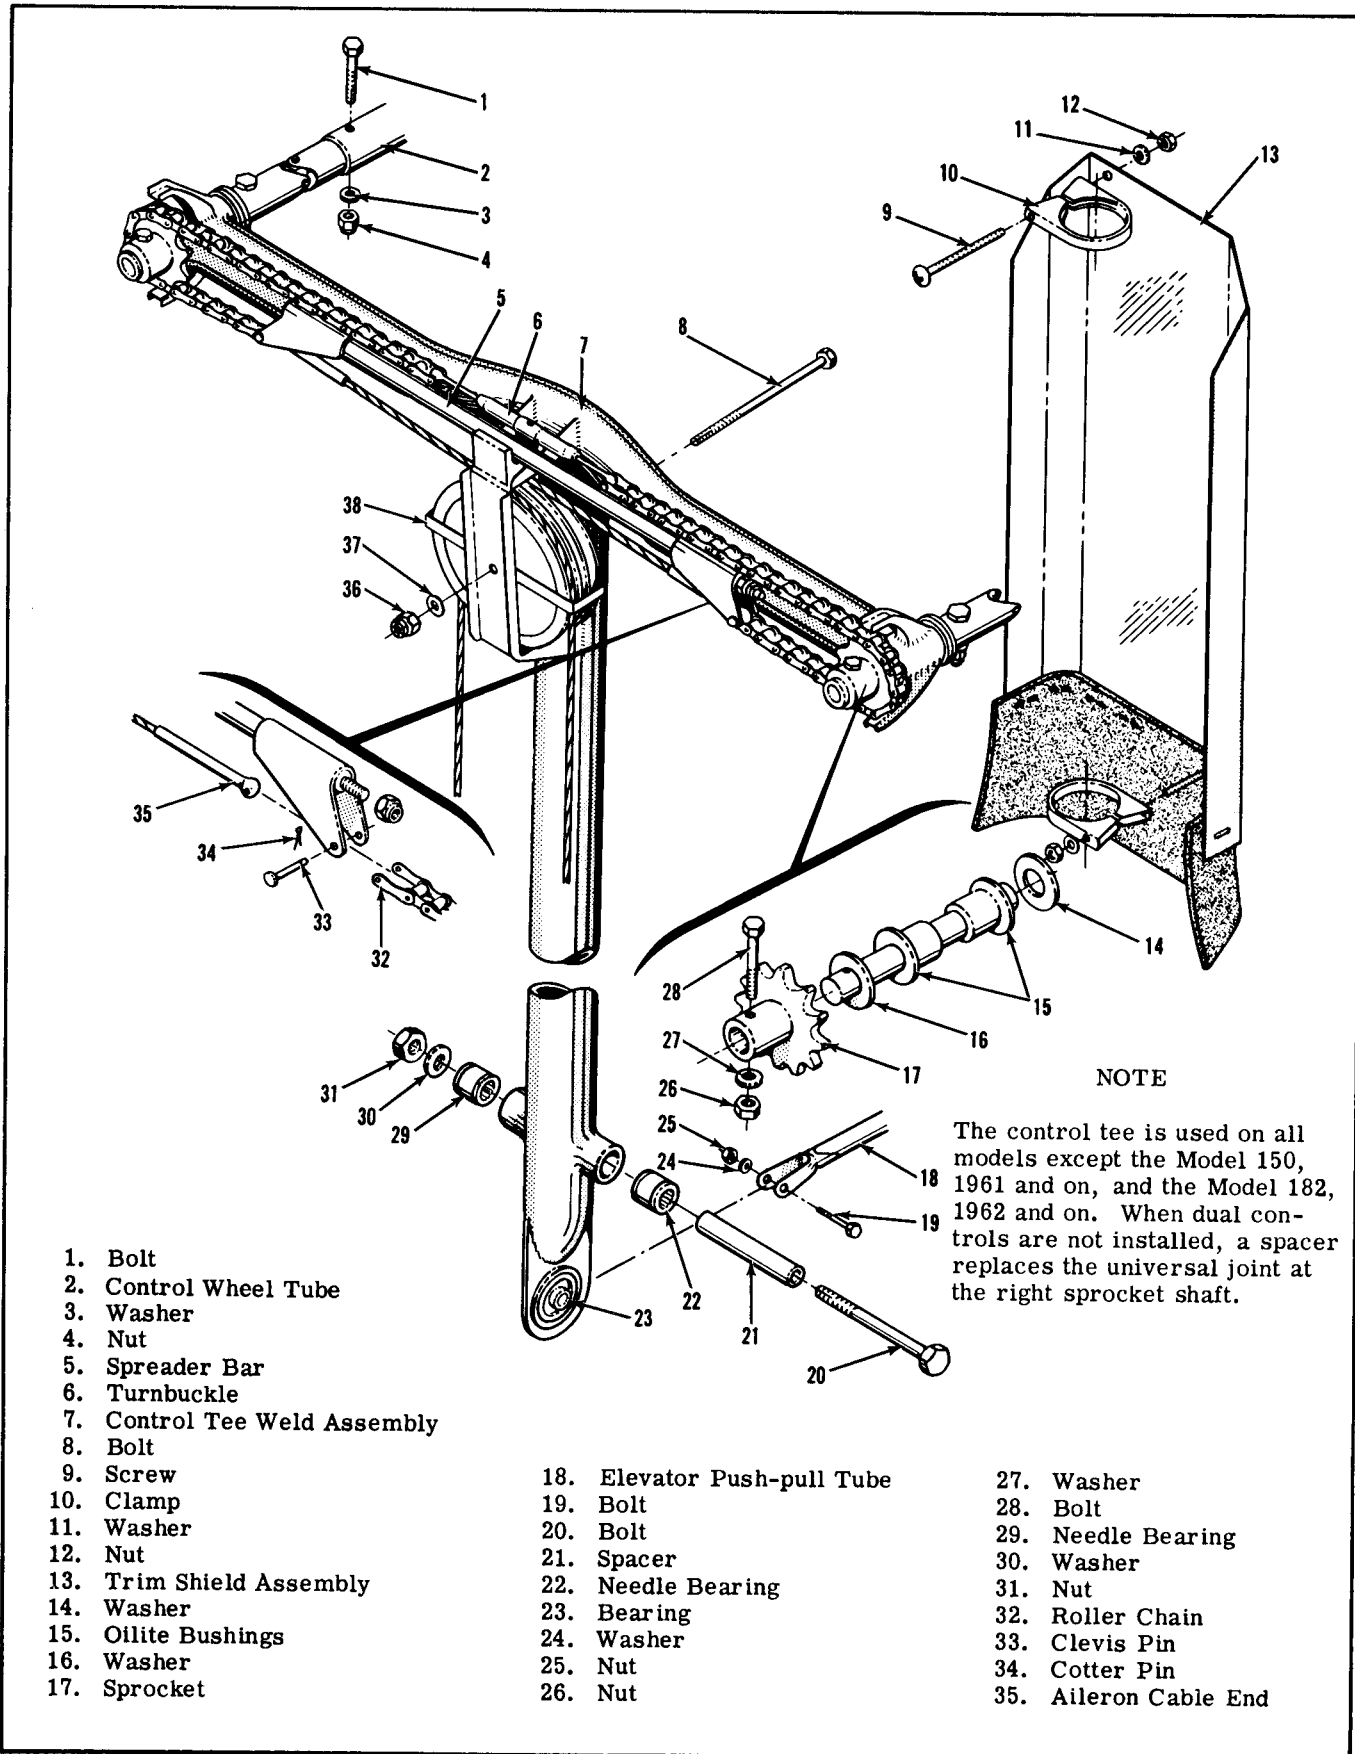

Figure 6-1. Control Tee
6-3. CONTROL TEE OR "Y". The control tee or "Y" synchronizes the control wheels and transmits control wheel rotation through the system to operate the ailerons. Both the control tee and "Y" are pivoted a few inches above their lower end so that fore-and-aft motion can operate the elevator control system. The control tee is shown in figure 6-1 and the control "Y" is shown in figure 6-2.
- 6-10. REMOVAL OF CONTROL TEE. (See figure 6-1.)
- Remove control tee shield (13).
- Peel back tunnel cover carpet for access to bolt (20). Remove bolt (19) attaching elevator push-pull rod (18) and control tee pivot bolt (20).
- Remove cotter pins (34) and clevis pins (33). Work cable ends free of control tee pulleys.
- Remove bolts (1) securing control tubes to universal joints and remove control tee.